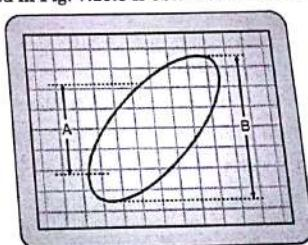

Fig. 7.15.8
- (II) XY method :
- (1) This method makes use of Lissajous patterns.
- (2) The time/div knob is set to X-Y EXT state. In this state, the signal given to CH1 acts as the sweep signal.
- (3) The vertical mode switch is kept in X-Y position. An ellipse such as the one illustrated in Fig. 7.15.8 is obtained on the CRO screen.